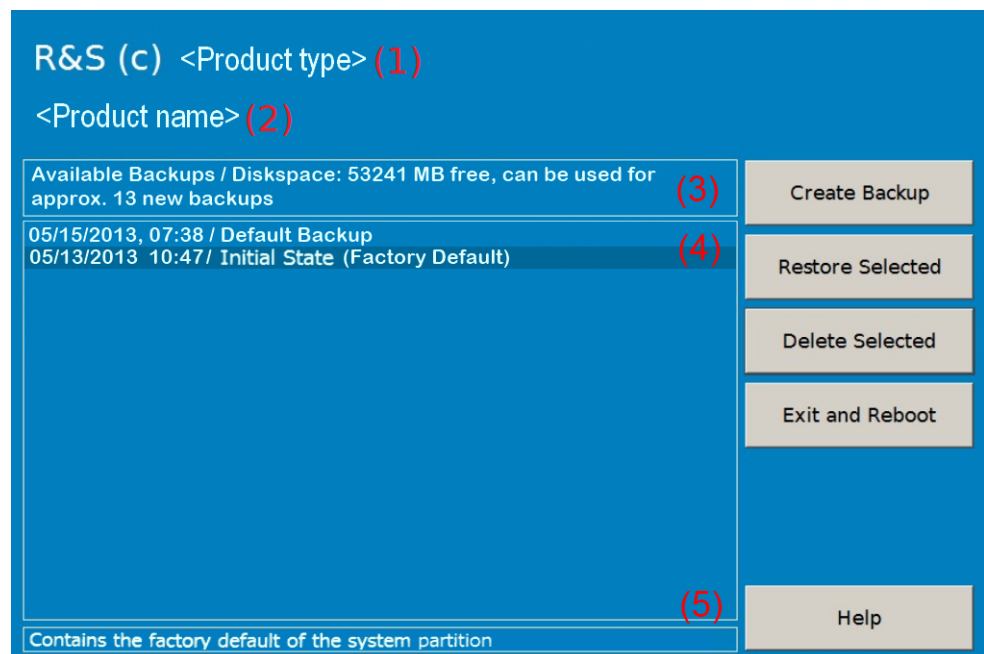

Fig. 9-1: Backup and restore main dialog (example)
1. In the main dialog (see figure 9-1), select "Create Backup".
1. In the main dialog (see figure 9-1), select the backup you want to restore.
1. In the main dialog (see figure 9-1), select the backup you want to delete.